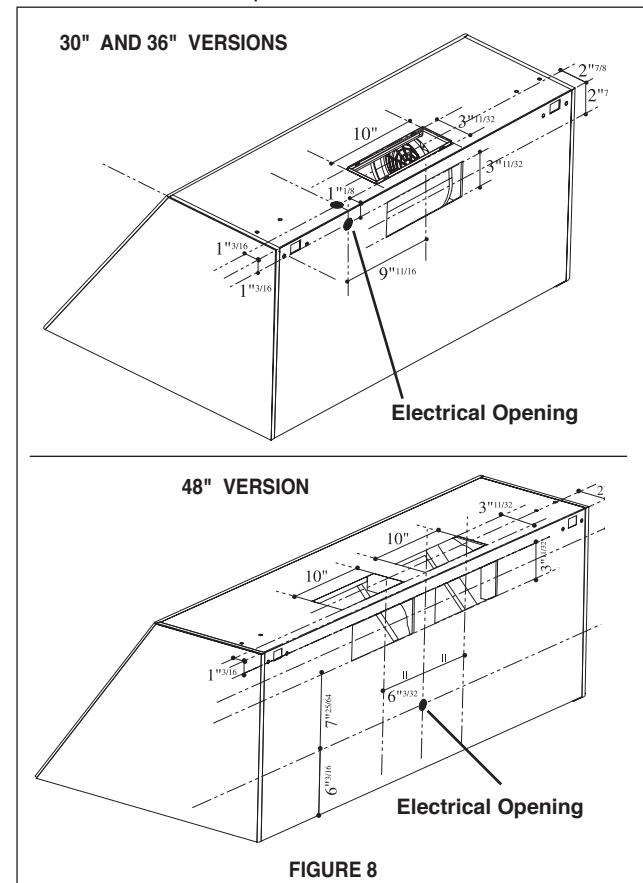

FIGURE 8
5. Determine and make all necessary cuts in the wall for the ductwork. The Pro Magnum vents either through the top or the rear of the rangehood. Each rangehood is shipped from the factory vented through the top. In order to vent to the rear, the blower inside the rangehood must be turned to the rear. The dimensions for the duct openings are given in **FIGURE 8**. The 48" model uses two 3 & 1/4" by 10" duct openings. Install all ductwork before installing the rangehood.
6. Determine the proper location for the Power Supply Cable as indicated in **FIGURE 8**. Note that the 30"/36" versions have the option of top or rear electrical connection while the 48" version has only the rear option. Use a 1 & 1/4" Drill Bit to make this hole. Run the Power Supply Cable. Use caulking to seal around the hole. DO NOT turn on the power until installation is complete.